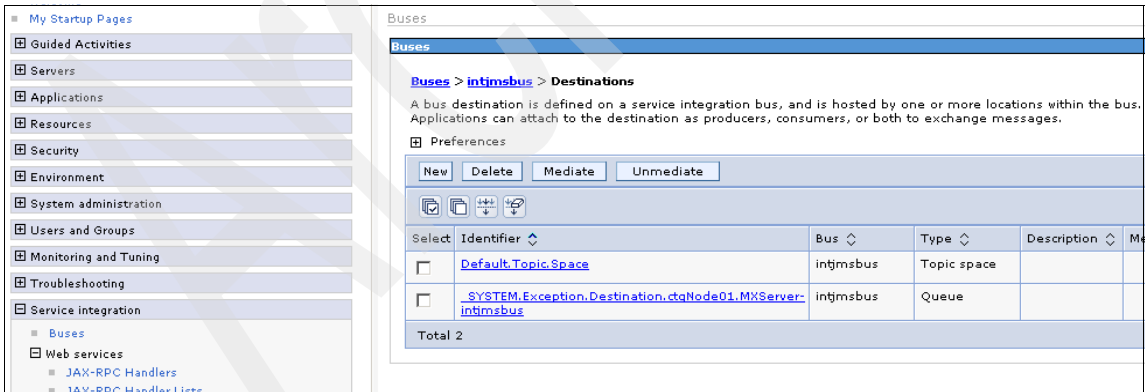

Figure A-31 Bus destination
- c. Click **Destinations** under Destination resources, and select **Buses** → **intjmsbus** to access the Destinations dialog box (see Figure A-31). A bus destination - for example, CQINBD - is a virtual place within a service integration bus where applications can attach and exchange messages.